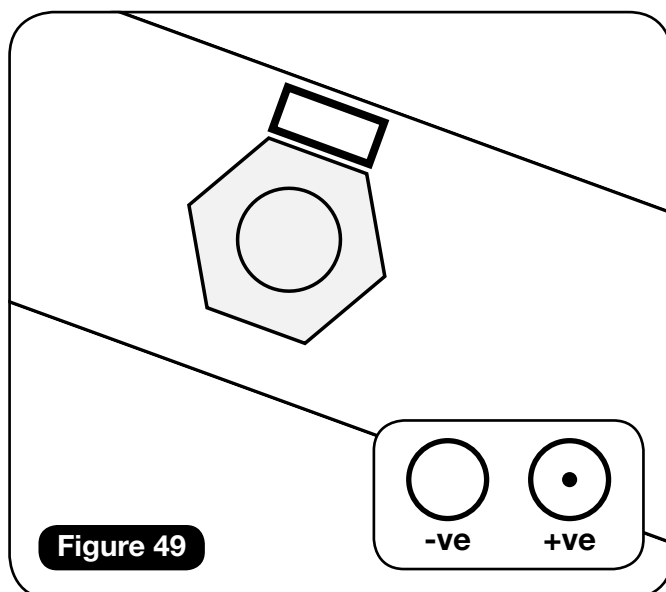

Figure 49
**Note:** The polarity of the magnets can be identified as shown in Figure 49. The polarity must be opposite at the entrance and exit of the bend.
**Note:** Ensure that the bolt is parallel to the track (Figure 49).